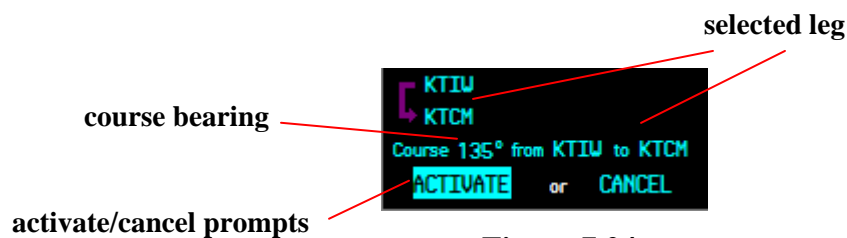

Figure 7.24
- 4.5 click on the ENTER key to display the activate leg window. The selected leg chosen will be displayed in the window, along with the course bearing and a blinking prompt to ACTIVATE or CANCEL the selection (Figure 7.24).